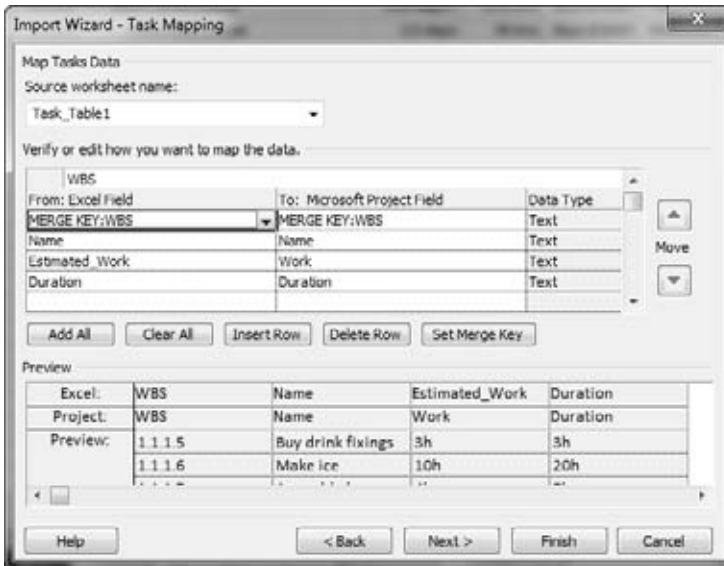

Figure 5-5:
8. On the same page, match the values in the workbook to Project fields, as shown in Figure 5-5.